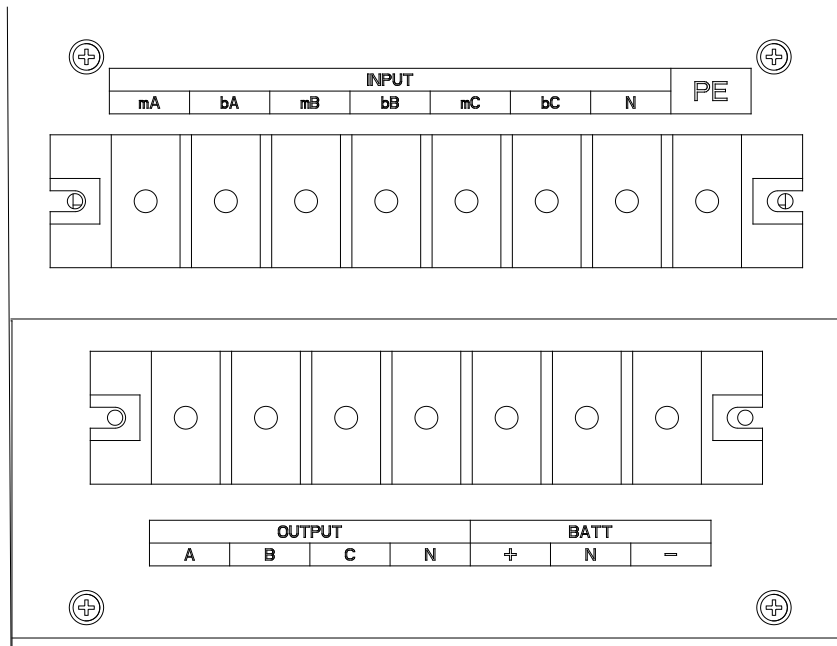

Fig.2-13 Connections terminals for 40kVA
2. Open the back door of the cabinet, remove the plastic cover. The input and output terminal, battery terminal and protective earth terminal are shown in Fig.2-11 & Fig 2.13.